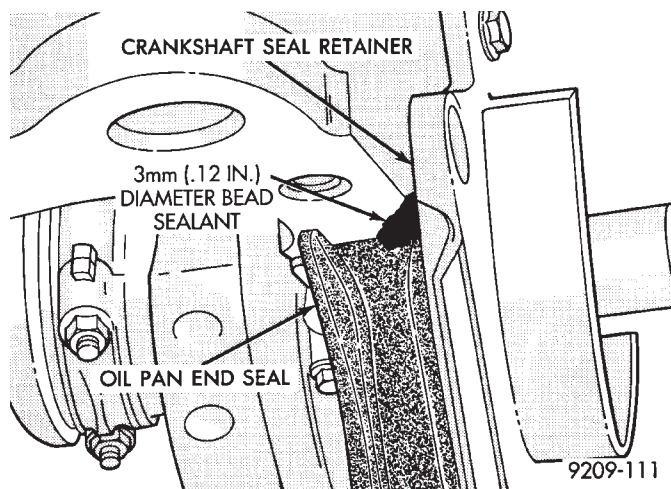

Fig. 3 Sealing, Front and Rear End Seals
- (1) Apply Mopar Silicone Rubber Adhesive Sealant or equivalent at the front seal retainer parting line (Fig. 3).
- (2) Install the oil pan side gaskets to the block. Use heavy grease or Mopar Silicone Rubber Adhesive Sealant or equivalent to hold in place.
- (3) Apply Mopar Silicone Rubber Adhesive Sealant or equivalent to ends of new oil pan end seals at junction of cylinder block pan rail gasket (Fig. 3).
- (4) Install pan and tighten to (12) M8 screws to 23 N•m (200 in. lbs.) and 1 M6 screws to 12 N•m (105 in. lbs.).